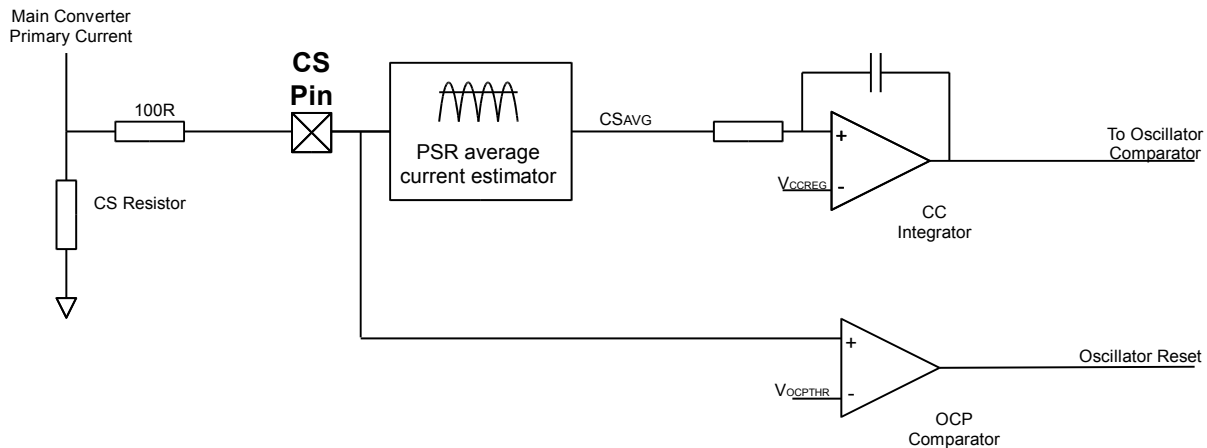

Figure 7: RED2501 Current protection and control circuits
Figure 7 shows the two current control methods used in the converter:
Shown in figure 7 the signal from the CS pin is divided into two different paths. The bottom path provides peak instantaneous over-current protection (OCP) while the PSR Average Current estimation block provides the current regulation (CC) information. The voltage on the CS pin is an AC signal biased around GND. Inside the PSR block this signal is processed to provide a voltage proportional to the average converter output current.
The CC regulation circuit is shown in Figure 7. CC operation is defined by an internally compensated control loop. This provides a system response time of approximately 300us in a typical application. The average current regulation point, V_{CCREG} is pre-set to 150mV, referred to the CS pin.